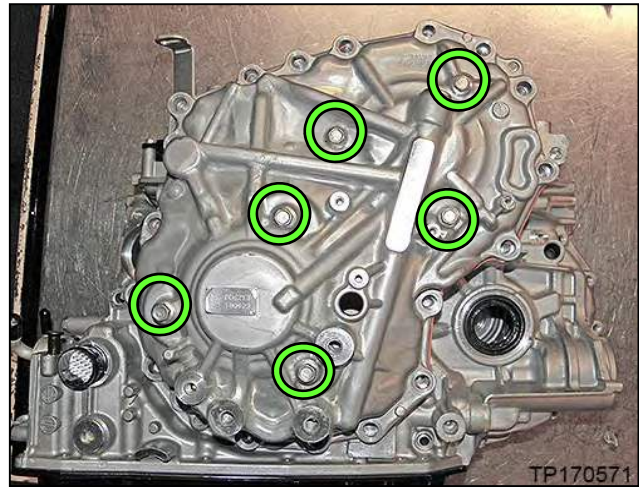

Figure 86
- c. Install the Lifting Fixture to the CVT case at the six (6) bolt holes shown in Figure 86.
1. Tighten the lower six (6) wing-nut bolts.
2. Tighten the two (2) joint to triangle brackets.
3. Tighten the top two (2) wing-nut bolts, and then proceed to step 63 on the next page.